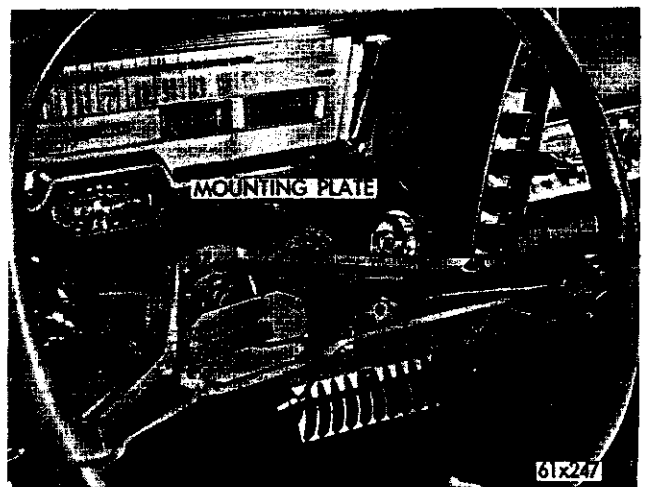

Fig. 24—Horn Blowing Ring Mounting Plate
(10) Remove the four screws and remove the horn blowing ring mounting plate (Fig. 24).